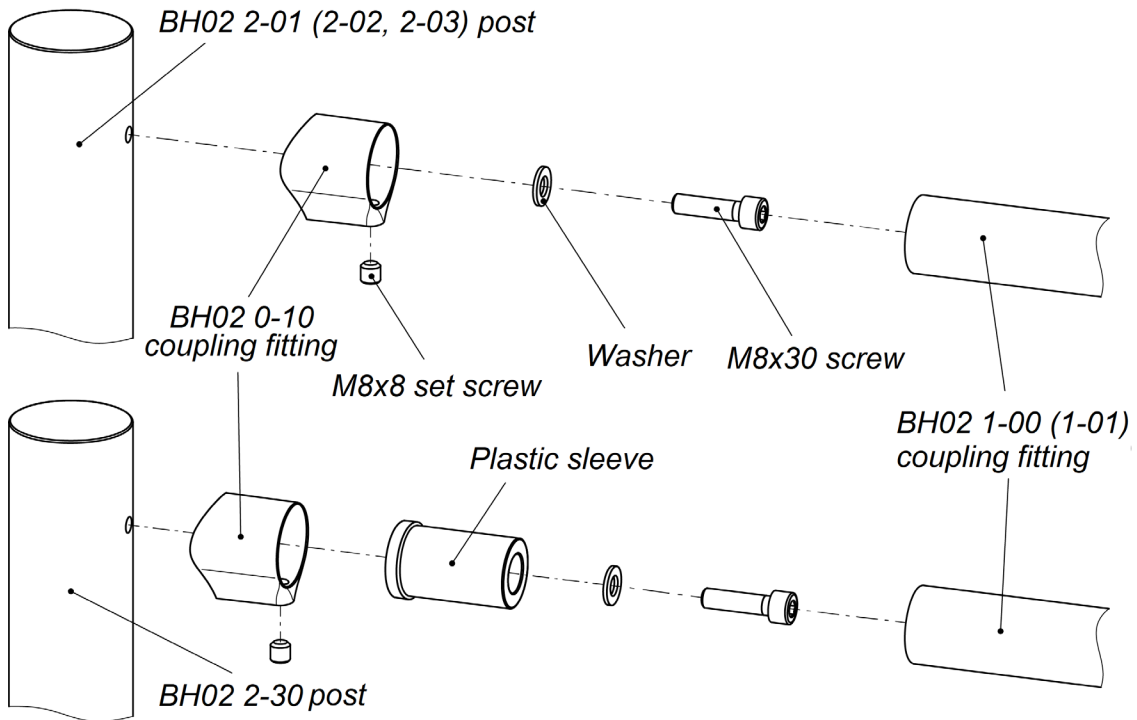
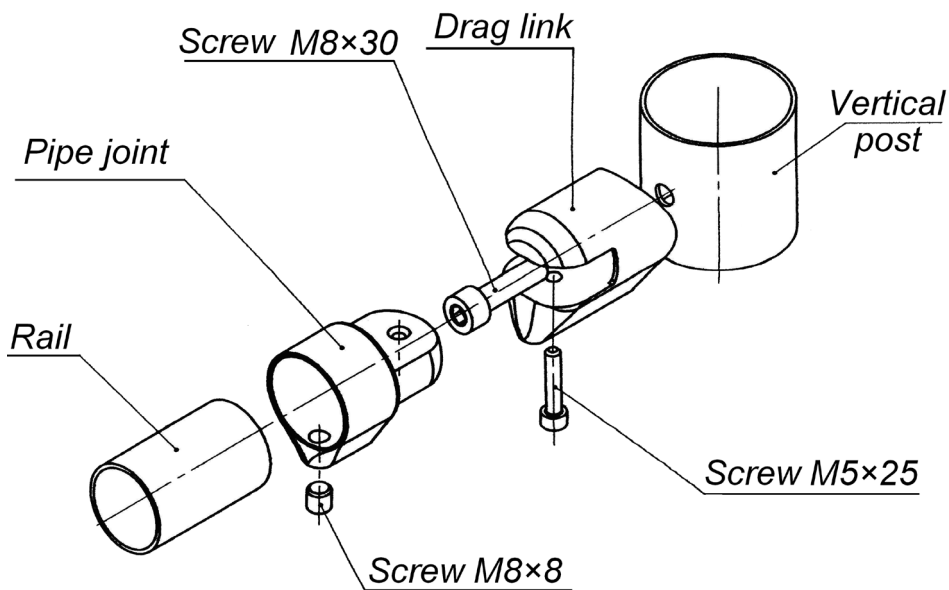

Figure 9. Fastening of rails to posts using BH02 0-10 standard coupling fittings
Figure 10. Fastening of rails to posts using BH02 0-11 adjustable coupling fittings
- Fix two **BH02 0-10(11)** coupling fittings to the both railing posts with M8×30 screws (see Figure 9, Figure 10). Screws are included into coupling fitting delivery set.
2. On both posts of **BH02 2-30** section assemble the **BH02 0-10** for fixing the rails (see Figure 9), and fix them on the posts with M8×30 screws. Screws are included into coupling fitting delivery set. Rails are fastened to the post later.